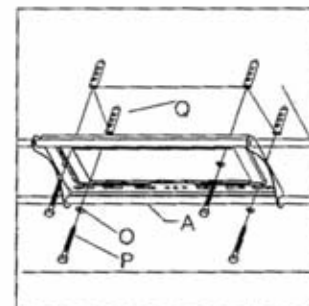

fig 2c
Use wall plate (A) as a template, mark the four holes in the wall, the left and the right hole places should spread in the two sides of the wall .two in the top row of slots and two in the bottom row, and make sure these holes are level, and there is at least 15.2cm between any two holes. use the 12mm drill bits to drill these holes beforehand (the depth is 6.4cm at least). Insert the anchor (Q) to these holes respectively, please make sure they are flushed with the wall surface, then use four square bolts (P) install the wall plate to the wall. (As shown in fig 2c).